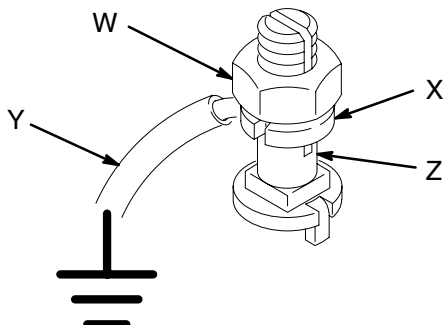

Fig. 1
1. *Pump:* use a ground wire and clamp. See Fig. 1. Loosen the grounding lug locknut (W) and washer (X). Insert one end of a 1.5 mm² (12 ga) minimum ground wire (Y) into the slot in lug (Z) and tighten the locknut securely. Connect the other end of the wire to a true earth ground. Order Part No. 238909 Ground Wire and Clamp.